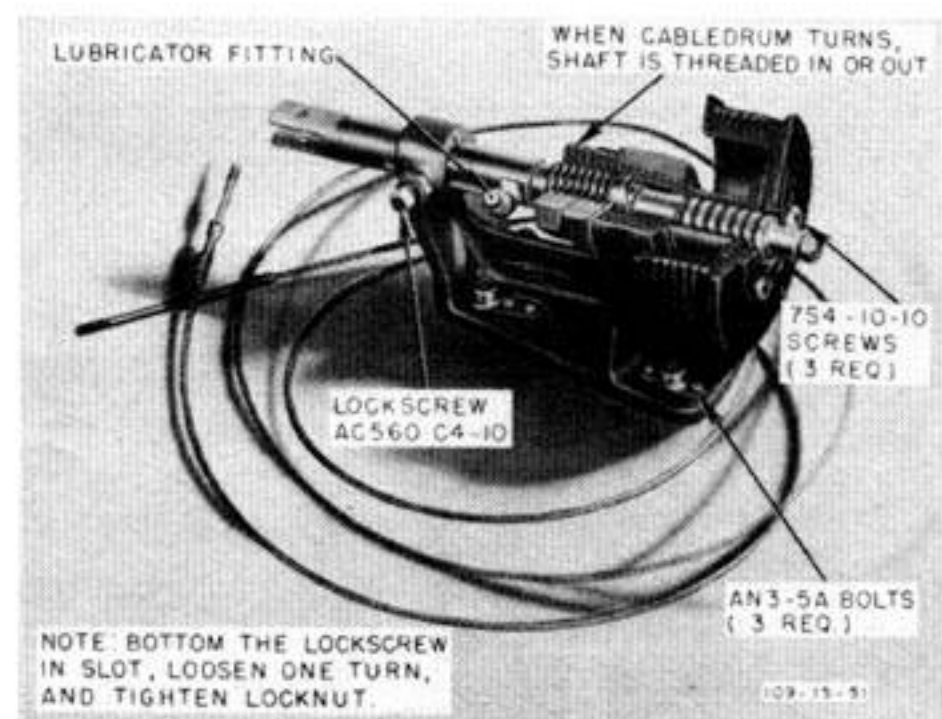

Figure 107—Aileron Trim Tab Actuating Mechanism
(4) AILERON TRIM TAB ACTUATING MECHANISM.—The aileron trim tab actuating mechanism consists of a housing bolted to the wing trailing edge structure, a cable drum assembly, and actuating shaft. The actuating shaft engages the threads in the cable drum. When the cable drum is rotated, the actuating shaft is threaded either fore or aft, as the actuating shaft is prevented from turning by a setscrew in the aft end of the housing. The fore-and-aft movement of the actuating shaft moves the tab up or down through an adjustable link. (See figure 107.)
(1) DESCRIPTION.—A controllable trim tab is installed on the rudder. The trim tab is operated by a control knob on the pilot's control pedestal. Reverse boost is imparted to the tab by the link rod. Control cables from the cable drum connected to the control knob extend aft through the fuselage to a point aft of the tail wheel installation, and then up to the cable drum in the vertical stabilizer. (See figure 112.) The actuating mechanism is similar to that of the aileron tab. (See figure 107.) The tab is limited to an angular travel of 10 degrees each side of neutral by cable